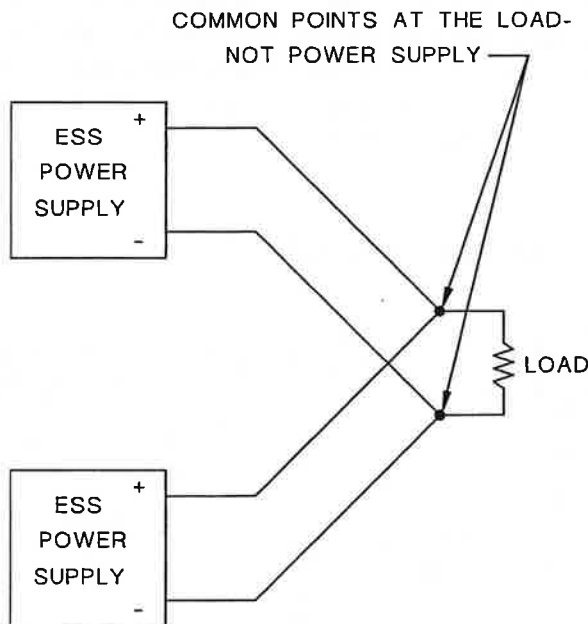
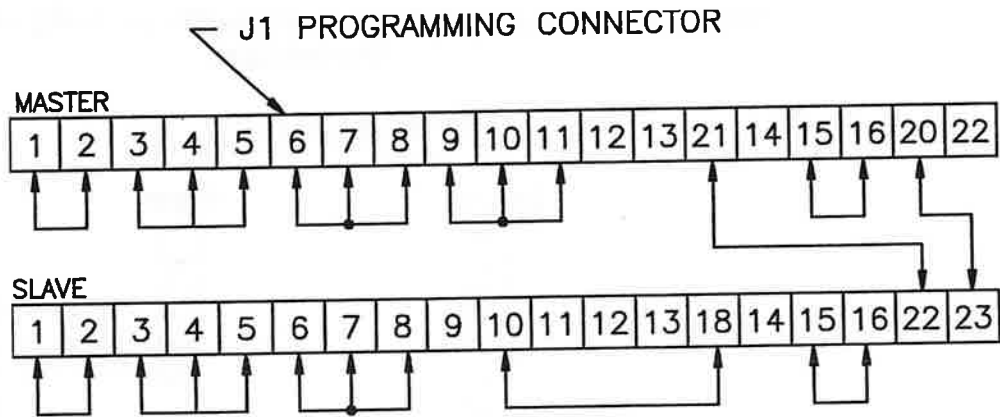

FIGURE 3.12: Parallel Operation
FIGURE 3.13: Parallel Operations in Masters/Slave Configuration.
- A) Maintain the same connections used for parallel operation (Figure 3.12). Adjust the strapping of each (master and slave supply) J1 programming connector as shown in Figure 3.13. The power supply designated master controls the voltage and current output of the slave supply.